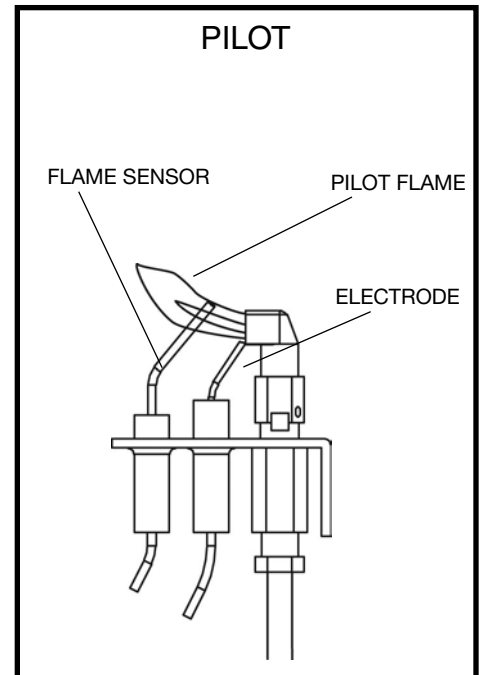

Figure 32: Pilot assembly.
- b) Check the pilot system for proper flame size and operation. Clean pilot free of soot, dust or any other deposits (Figure 32).